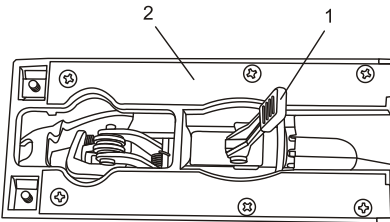

Fig. 4
1. Lift the bevel angle quick release lever (1) out of the sole plate (2) until the sole plate can be rotated (Fig. 4).
Bevel cutting angles may be adjusted from 0° to 45° either left or right. To adjust the bevel angle, refer to Fig. 4, 5 & 6.